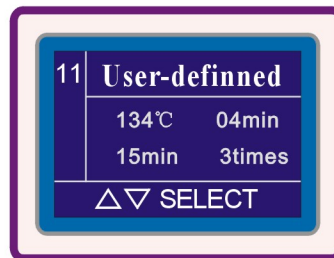
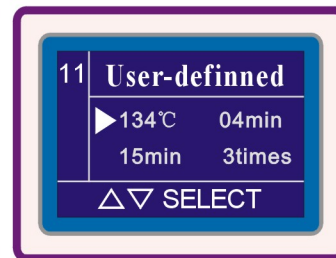

Fig.6.4-25
Fig.6.4-26
(1) Continued Press button 3 second, LCD appear “PROGRAM” ,then press “UP” button, appear program list, then press “UP” or “DOWN” button, have found “User-defined” program. show Fig.6.4-25.
(2) In interface Fig.6.4-25 basis, press “SELECT PROGRAM” button, LCD appear interface Fig.6.4-26, triangle cursor is located 134°C. Continue to press “SELECT PROGRAM” button, triangle cursor skip to turn 134°C、04min、15min、3times position.